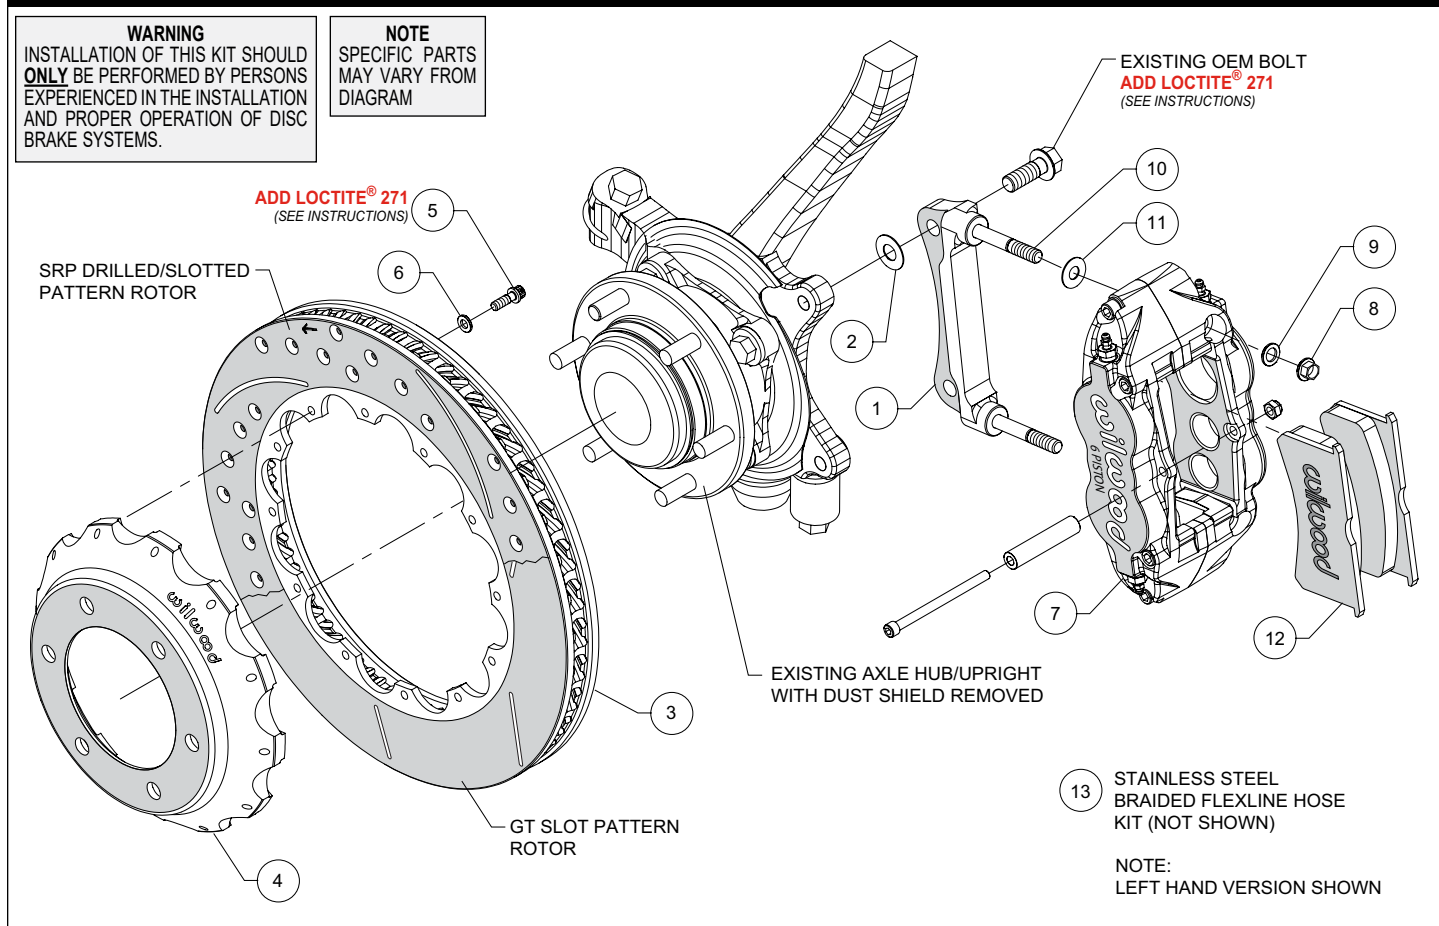

Figure 1. Typical Installation Configuration
NOTE: Numbers in parenthesis refer to the parts list and Figure 1 on the preceding pages.
- The caliper mount bracket (1) should initially be installed with clean, dry threads on the mounting bolts. Orient the bracket as shown in Figure 1 and Photo 2 and install using saved OEM mount bolts. Initially place one .033" thick shim (2) on each bolt between the bracket and upright, Figure 1. Temporarily tighten the mounting bolts. **NOTE:** The bracket must fit squarely against the mounting points on the upright. Inspect for interference from casting irregularities, machining ridges, burrs, etc. Later, after the caliper alignment has been checked, the mount bolts will be secured using red *Loctite*® 271.
- Orient the rotor (3) and the hat (4) as shown in Figure 1 and Photo 3. Attach rotor to hat using bolts (5) and washers (6). Apply red *Loctite*® 271 to the bolt threads and torque to 155 in-lbs using a criss-cross pattern. For an added measure of security, the bolts may be safety wired using standard 0.032 inch diameter stainless steel safety wire as shown in Figure 3. Please refer to Wilwood's data sheet DS-386 (available at www.wilwood.com/Pdf/DataSheets/ds386.pdf) for complete safety wire installation instructions.
- NOTE:** This kit contains distinct right and left hand calipers that must be mounted in a specific direction, as described below. Initially place one .035" thick shim (11) on each stud (10) between the caliper and the bracket, as shown in Figure 1 and Photo 6. Mount the caliper (7) onto the bracket (1) using lock nuts (8) and washers (9), Figure 1. Ensure that the caliper is mounted so the largest pistons are at the rotor exit end of the caliper, in relation to the direction of rotor rotation. Temporarily tighten the lock nuts and view the rotor through the top opening of the caliper. The rotor should be centered in the caliper, Photo 7. If not, adjust by adding or subtracting shims (2) between the bracket and the upright. Always use the same amount of shims on each of the two mounting bolts. Once the caliper alignment is correct, remove the bracket mounting bolts one at a time, apply red *Loctite*® 271 to the threads, and torque to manufacturer's specifications.